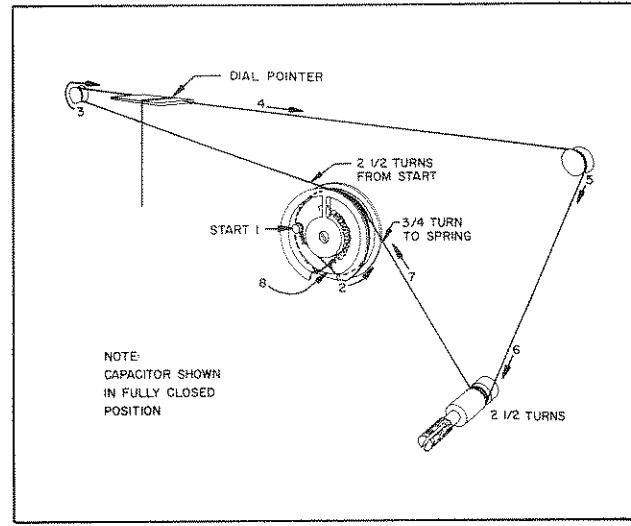

Figure 3. Dial Cord Restringing Diagram.
- Place the tuning capacitor drum in the position shown in figure 3. Start with the dial cord tied to the pin at location 1 and proceed to string along the direction of ascending numerical order. Finish by tying the cord to the spring at location 8.